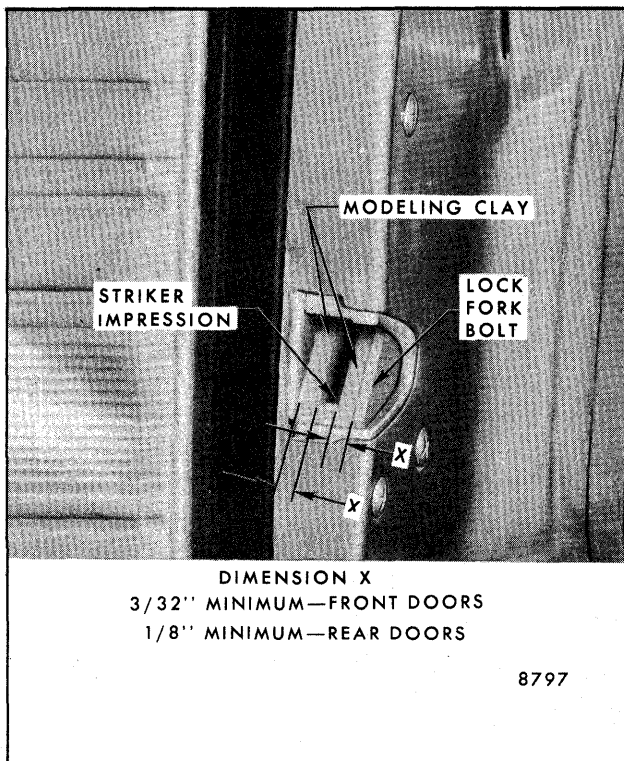

Fig. 5-19-Lock to Striker Engagement
- b. Apply modeling clay or body caulking compound to lock bolt opening as shown in Figure 5-19.
- c. Close door only as far as necessary for striker bolt to form an impression in clay or caulking compound as shown in Figure 5-19.
- d. Measure striker impressions as follows: Striker head should be centered fore and aft as shown; however, some tolerances are allowed. In any alignment, it is important that minimum dimensions, as outlined in Figure 5-19 be strictly maintained. The following spacers are available as service parts and can be used individually or in combination to achieve the desired alignment.